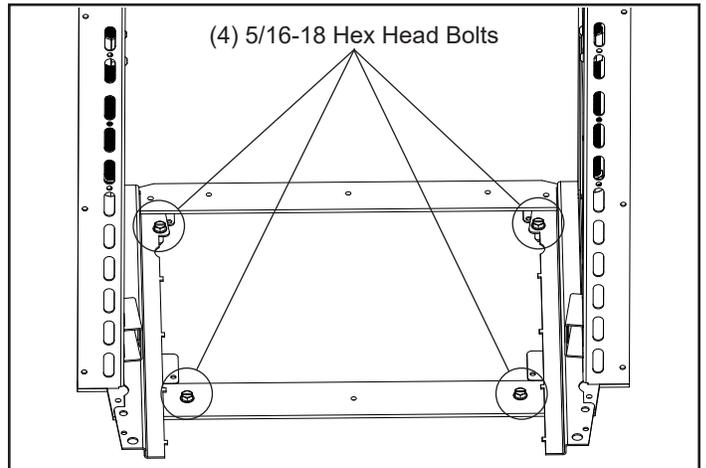

Figure 8.4 - Remove (4) 5/16-18 Hex Head Bolts
Now that the unit is removed you can now remove the mounting frame from the skid. To do this simply remove (4) 5/16-18 Hex head bolts. Figure 8.4.